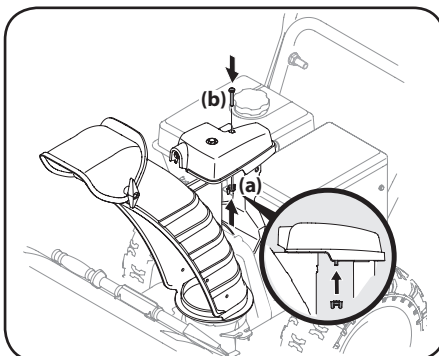

Figure 2-31
3. Finish securing chute control assembly to chute support bracket with wing nut (a) and hex screw (b) removed in Step 1. See Figure 2-31.